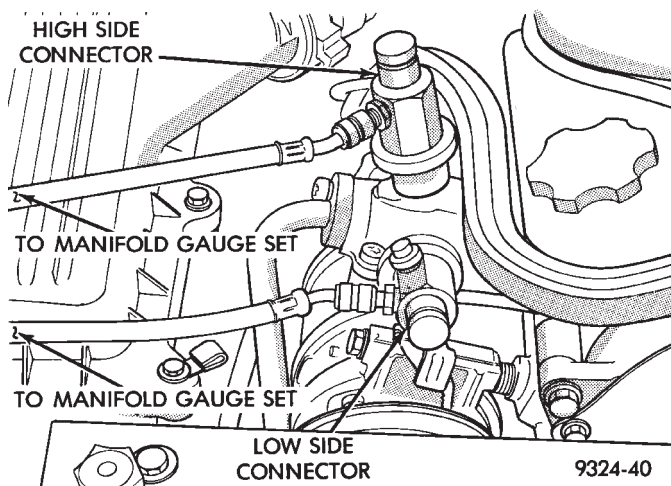
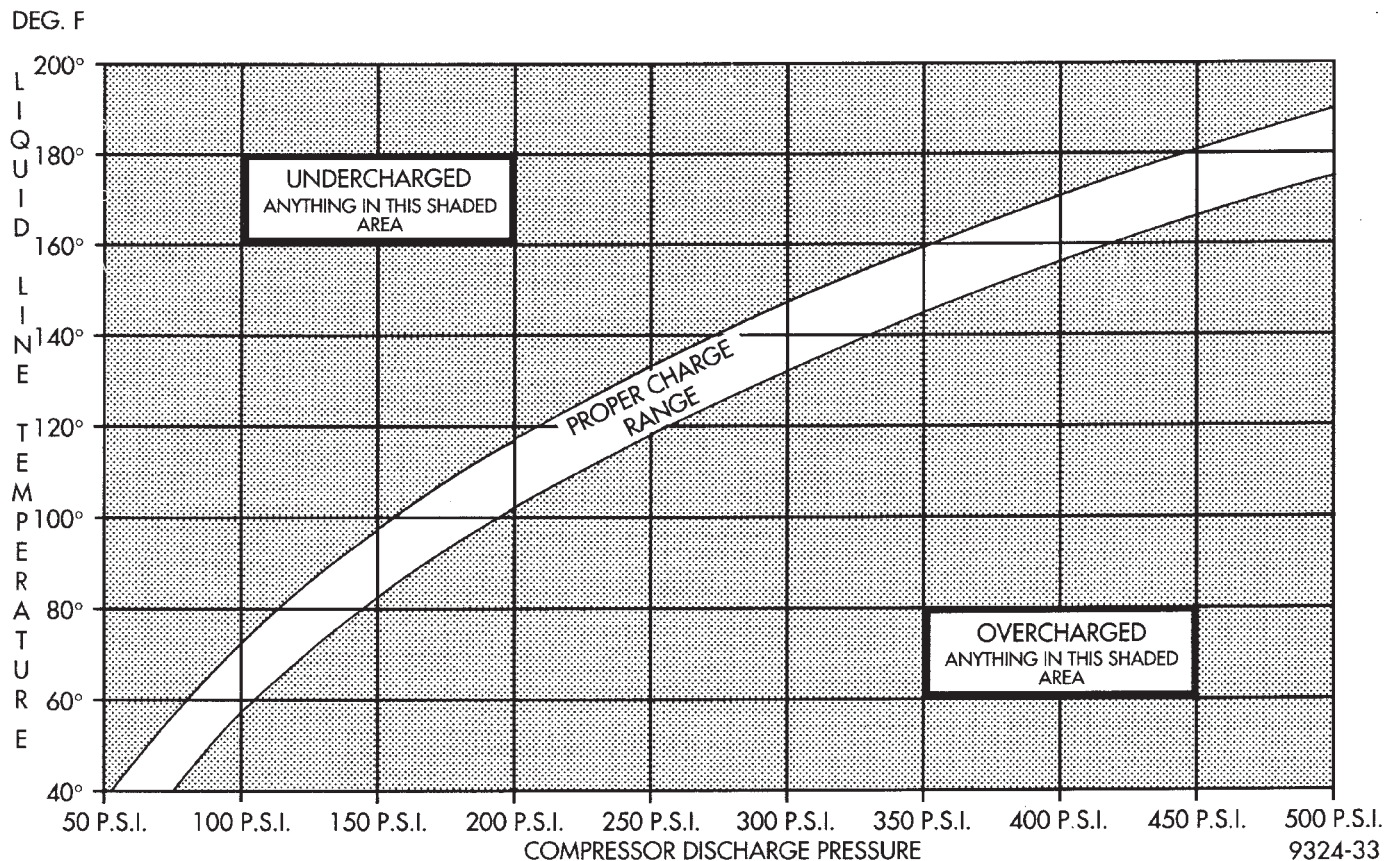

Fig. 18 Manifold Gauge Hook-up
Fig. 19 Charge Determination Graph
- Using a manifold gauge set (Fig. 18), a thermocouple and the Charge Determination Graph (Fig. 19). It is recommended to use the gauges or reclaim/recycle equipment.
(4) Operate system for a couple of minutes to allow the system to stabilize.
(5) Set system pressure to about 1793 kPa (260 psi) by blocking off the airflow to the front grill area. This will maintain a constant pressure and stop the cooling fans from alternating between high and low speeds.
(6) Observe Discharge pressure and Liquid line temperature. Using the Charge Determination Graph determine where the system is currently operating (Fig. 19). If the system is in the undercharged region, ADD 0.057 Kg. (2 oz.) to the system and recheck readings. If the system is in the overcharged region, RECLAIM 0.057 Kg. (2 oz.) from the system and recheck readings. Continue this process until the system readings are in the proper charge area on the Charge Determination Chart (Fig. 19).
(7) The scan tool procedure does not require the Charge Determination Graph. The correct liquid line temperature range is calculated by the scan tool automatically.